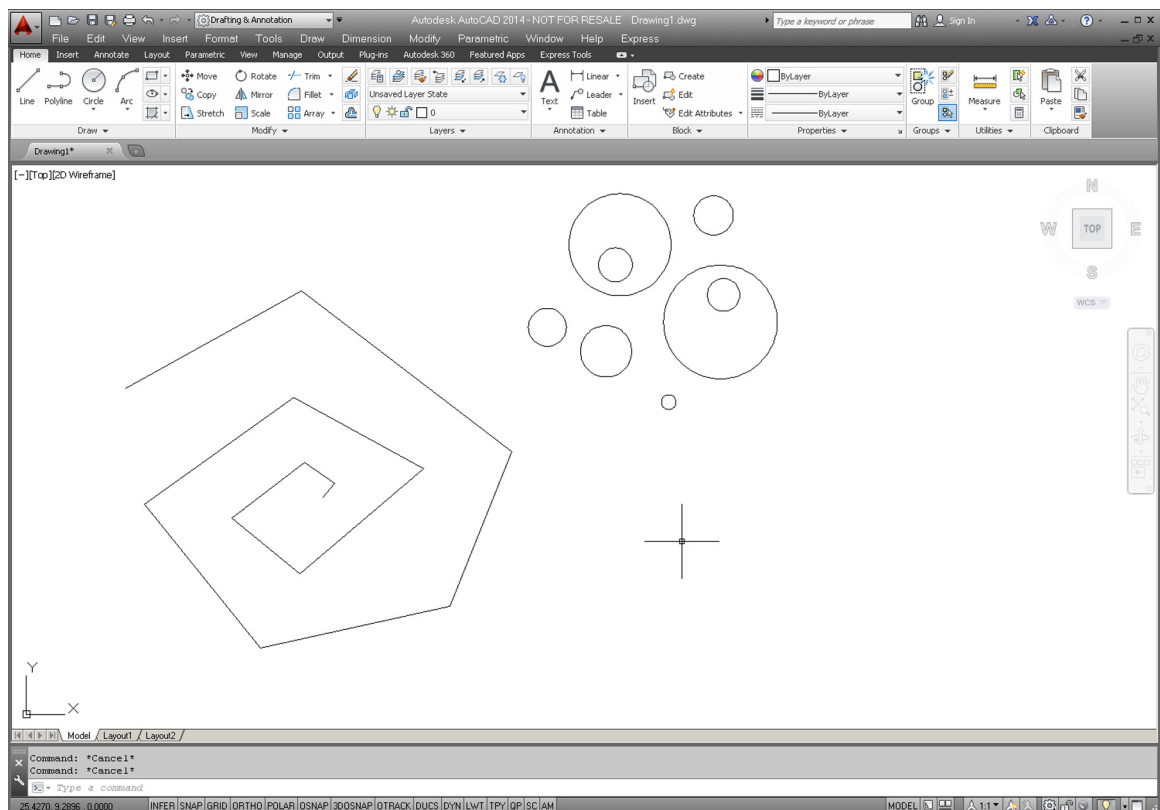

FIGURE 1.13
Step 3. Left-click to finish the circle command. Repeat Steps 1 through 3 several times, and your screen should look like Figure 1.13.